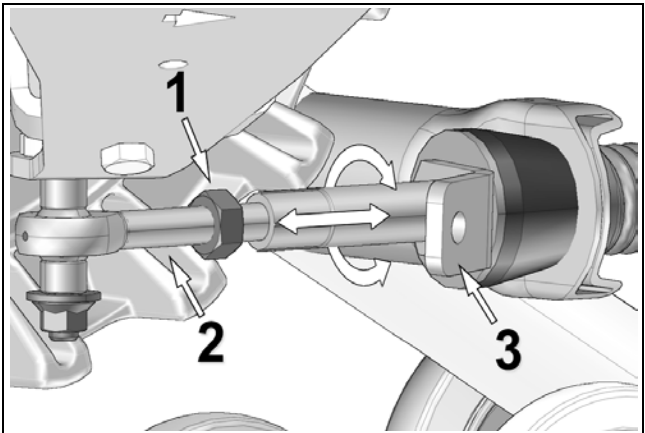

Figure 3
- Loosen jam nut (1). Adjust length of rod end (2) by rotating the steering limiter support plate (3) on the stabilizing arm. Use a 30 mm [1 3/16 in.] wrench to rotate support plate and obtain 254 mm [10 in.] above the ground. Refer to Figure 3.
*NOTE: On front Track Systems, the stabilizing arms incorporate a steering limiter support plate which is bent (3). This plate should be positioned inwards, towards the vehicle.*